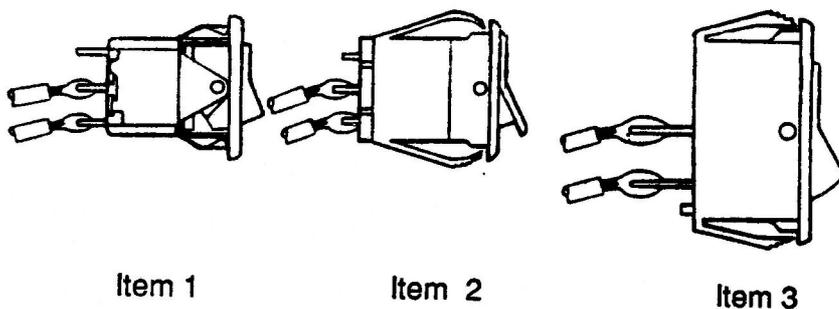

FIGURE 1
- a) Switch, Power Supply, Rocker, Two Pole (Figure 1, switch A)
- a) Switch, Power Supply, Rocker, Three Pole (Figure 1, switch B)
See Figure 1 for the three types of switch usually found in Apple II power supplies. The small, three-pole switch (Figure 1, switch B) is now obsolete and should be replaced with a new Switch, P.S., Three Pole (Figure 1, switch C). The large, two-pole rocker switch, (Figure 1, switch A) must be replaced by another two pole, rocker switch, (Figure 1, switch A).